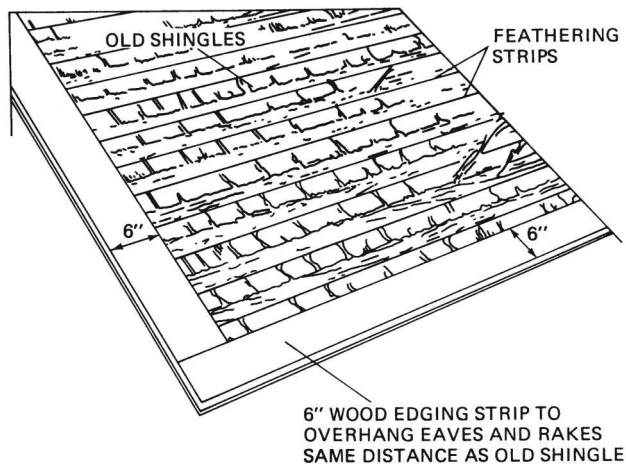

Fig. 17-38 Treatment of rakes and eaves when reroofing in a windy location. (Bird and Son.)
- When shingles and trim at the eaves and rakes are badly weathered, and when the work is being done in a location subject to the impact of unusually high winds, the shingles at the eaves and rakes should be cut back far enough to allow for the application, at these points, of 4- to 6-inch wood strips, nominally 1 inch thick. Nail the strips firmly in place, with their outside edges projecting beyond the edges of the deck the same distance as did the wood shingles (Fig. 17-38).